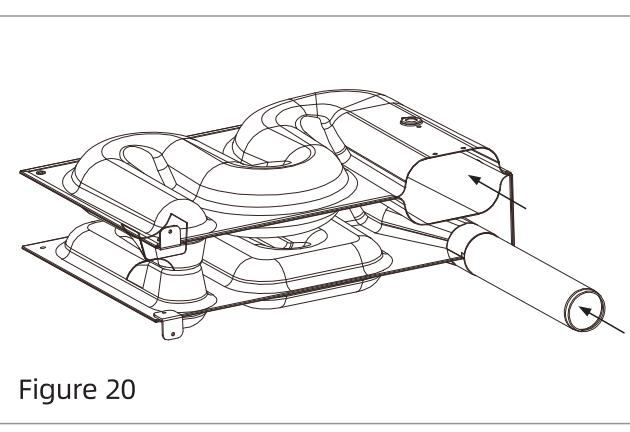

Figure 20
5. Inspect combustion chamber for restrictions in exhaust or intake. It is imperative that the flow of intake combustion air and the flow of exhaust gases being expelled to the outside atmosphere not be obstructed. Any soot or loose debris should be blown out using compressed air. (See Figure 20)